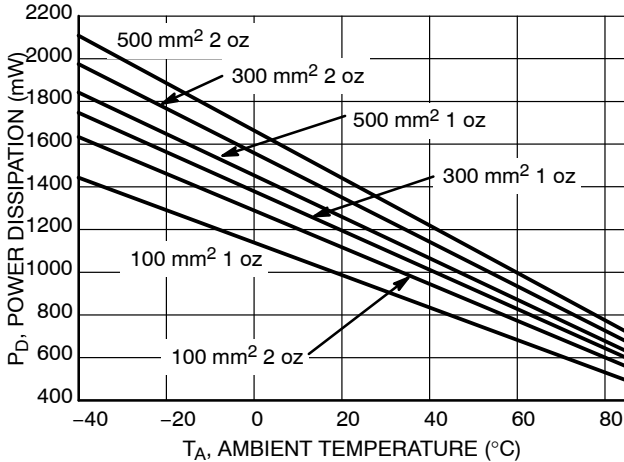
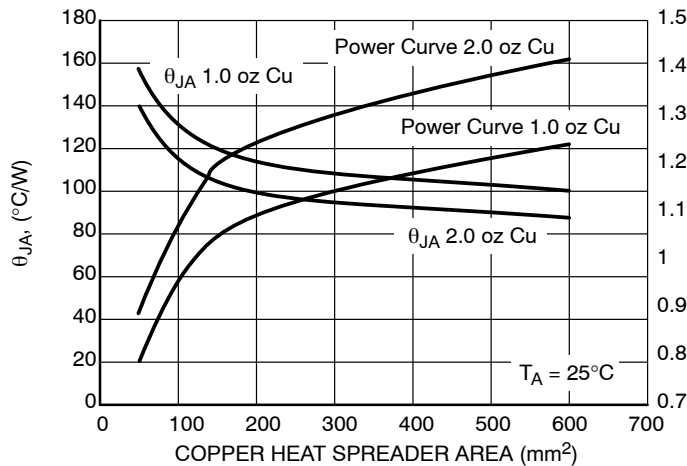

Figure 3. Power Dissipation vs. Ambient Temperature (SOT-223) @  $T_J = 150^{\circ}\text{C}$
Figure 4. SOT-223  $\theta_{JA}$  and  $P_D$  vs. Cu Area
Figure 3 shows power dissipation over changes in ambient temperature for the SOT-223 package. Figure 4 shows  $\theta_{JA}$  ( $^{\circ}\text{C}/\text{W}$ ) and  $P_D$  (W) for various Cu areas and thicknesses. These tables and graphs illustrate the effect of Cu area, thickness and ambient temperature ( $T_A$ ) over the range of  $-40^{\circ}\text{C}$  to  $85^{\circ}\text{C}$  which encompasses the area of interest for automotive LED operation.